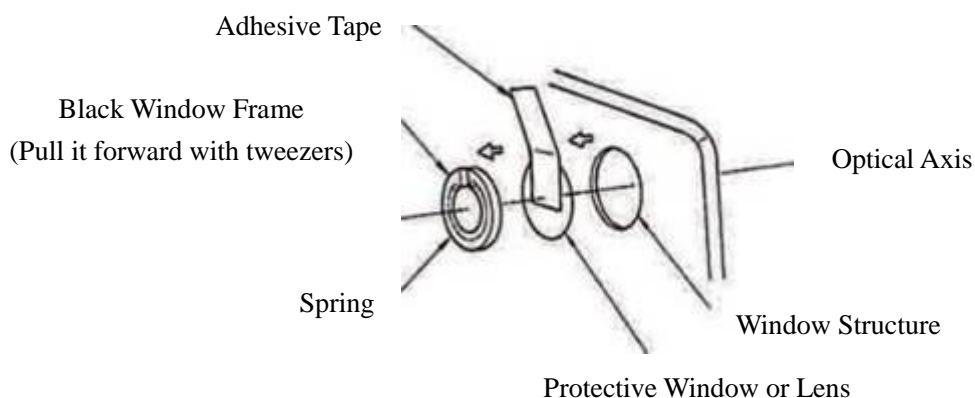

Figure 4-7 Schematic diagram of removing/mounting quartz plate of protective window or lens of sample chamber
(1) When cleaning lens, only need to clean the face towards sample chamber, for the other face is sealed and need not to be cleaned.
- (2) Try not to remove lens or lens assembly to avoid optical path deviation.
- (3) When cleaning quartz plate of protective window, only need to clean the face towards sample chamber, for the other face is sealed and need not to be cleaned.
- (4) Quartz plate of protective window or lens must be removed for clean, shown as Figure 4-7.
- (5) During clean and removal process, do not leave fingerprint on quartz plate of protective window or lens.